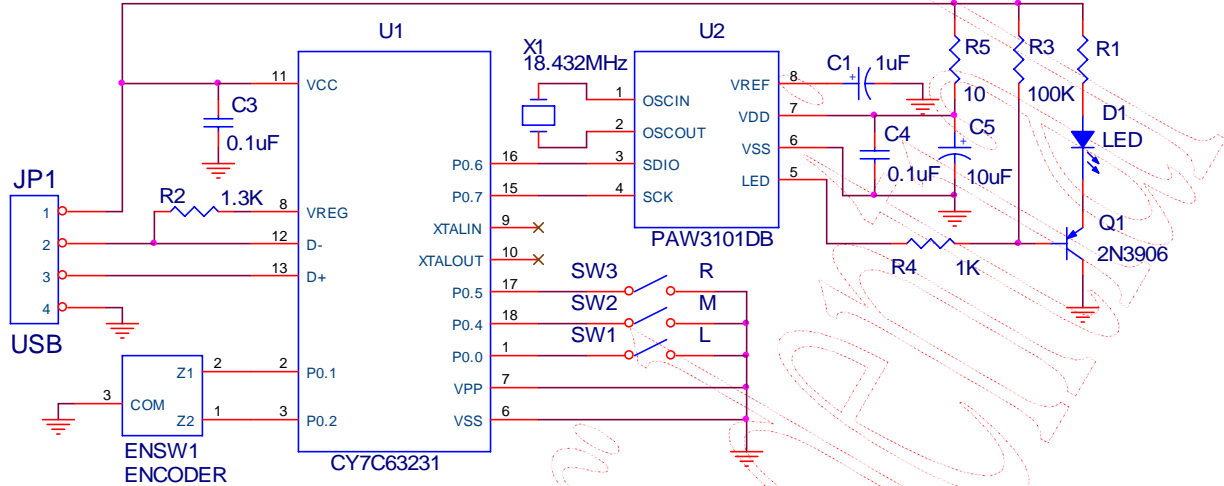

Figure 11. 5V Application Circuit with External LED Control
- R1 value (ohm) for external LED control, VDD = 5.0V (refer to Figure 11)